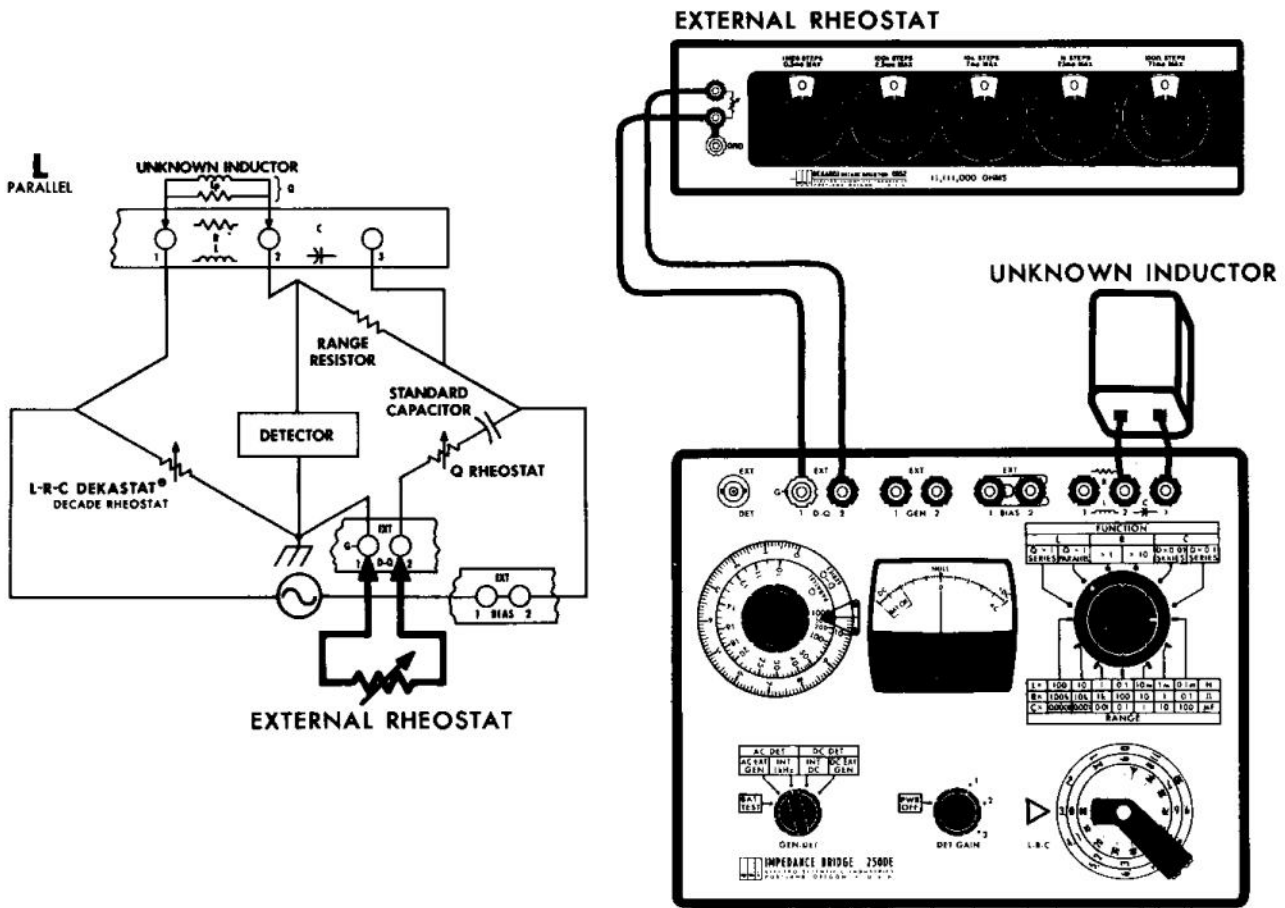

Figure 5-3. Parallel Inductance, External Q Rheostat
2. Connect an external rheostat between EXT D-Q binding posts. See Figure 5-3.